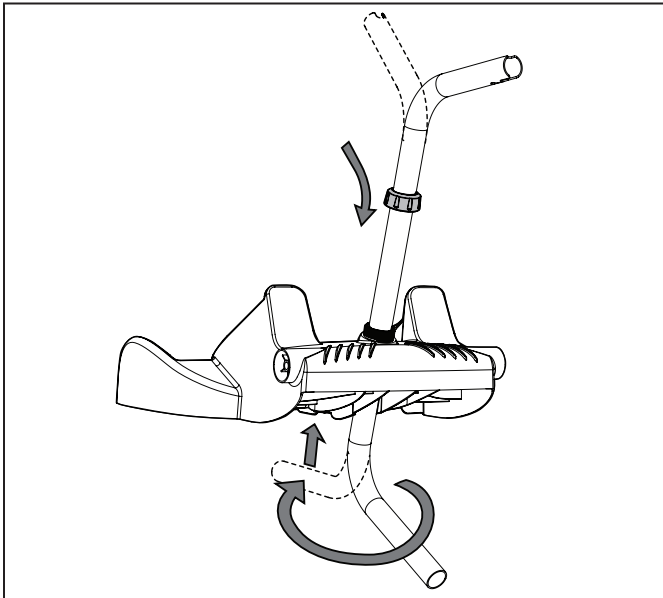

**Figure 2. Remove Handnut from Base Unit**
1. Unscrew the handnut from the base unit (Figure 2).